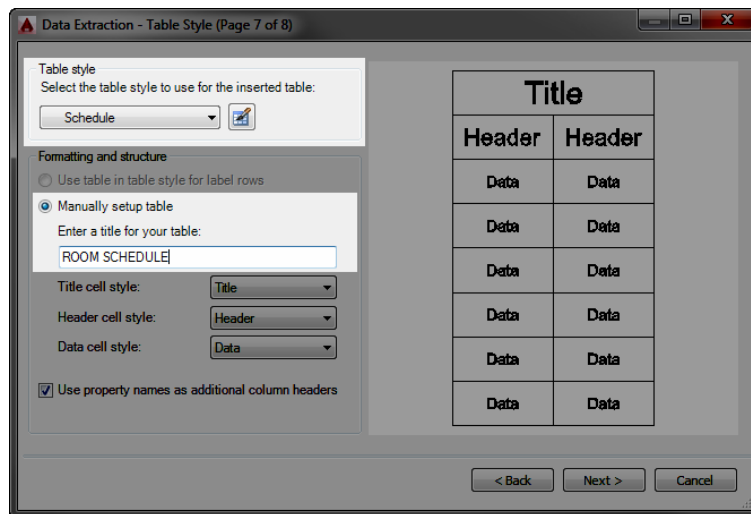

FIGURE 9.78 Picking the table style to be used and entering a title for the table
18. Verify that the Schedule table style is selected in the Table Style group of the screen, and then enter **ROOM SCHEDULE** in the Enter A Title For Your Table text box (see Figure 9.78). Click Next to continue.